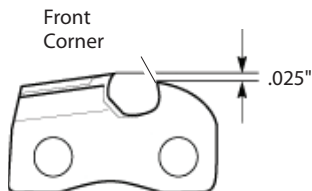

Figure 35 - Round Off Front Corner Of Depth Gauge
3. Remove depth gauge tool. With flat file, round off front corner of cutter depth gauge (see Figure 35).